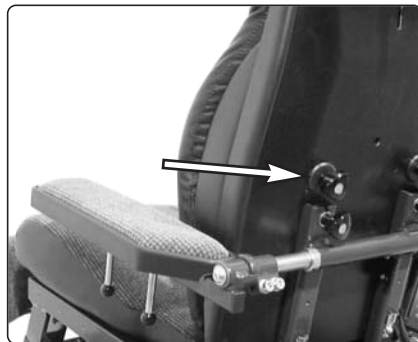

Fig. 17. Trunk rest adjustment.
1. Loosen the knob on the back of the back rest, see Fig. 17.